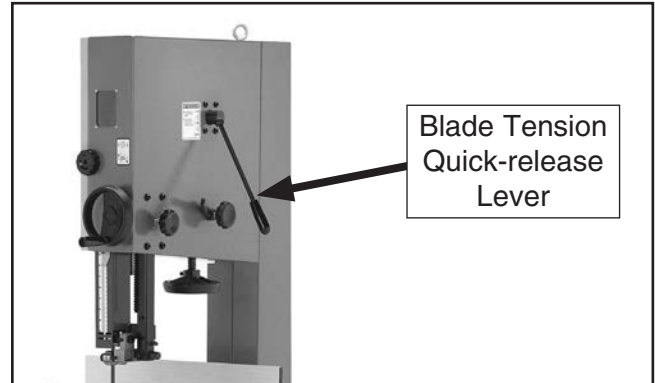

Figure 43. Blade tension quick-release lever (G0513X2 shown).
4. Engage the blade tension quick-release lever to apply tension to the blade (see **Figure 43**).